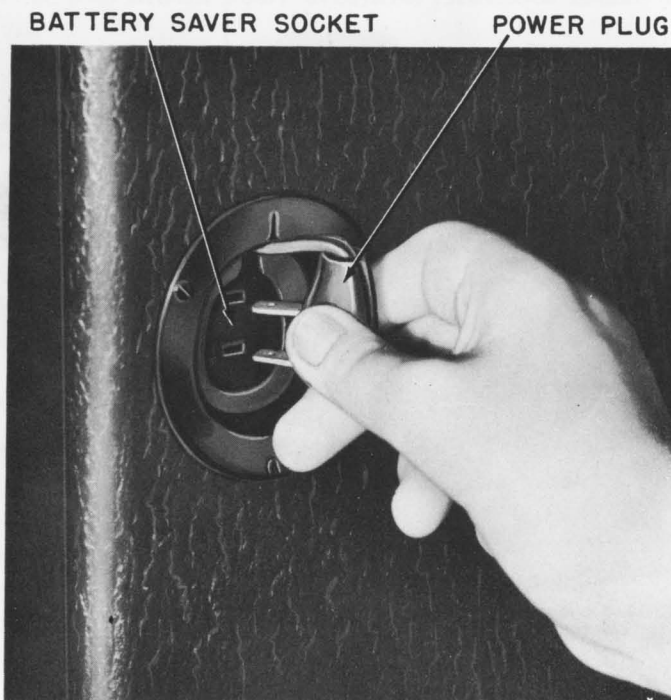
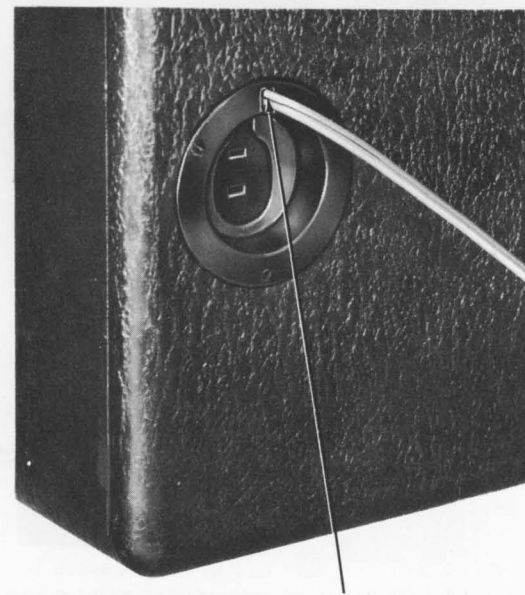

Figure 2.—Insertion of 110 Volt Plug Into Battery Saver Socket.
Figure 3—Power Cord Captivated in Retaining Slot.
- A. The 110-volt plug must be placed in the battery saver socket provided in order for the receiver to operate on the dry battery pack. (See fig. 2). The excess 110-volt line cord is automatically taken up by the line cord reel inside the cabinet.
- A. To operate the receiver on 110-volt 60 cycle Alternating Current or 110-volt Direct Current it is only necessary to remove the power plug from the Battery Saver Socket at the side of the receiver, (See fig. 2.), pull out the Power cord and captivate it in the retaining slot, (See fig. 3).